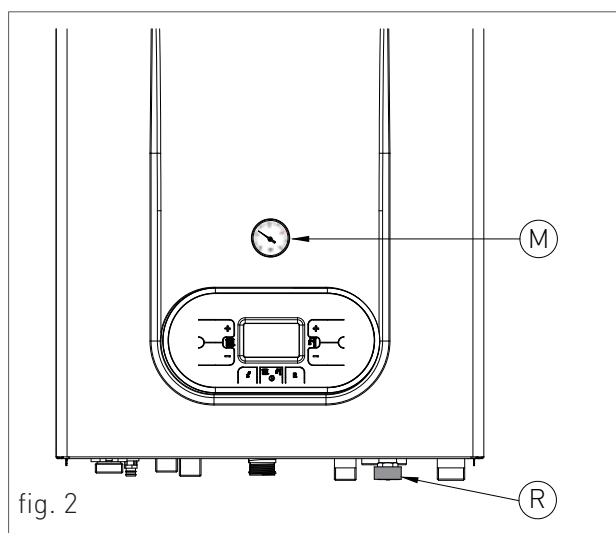
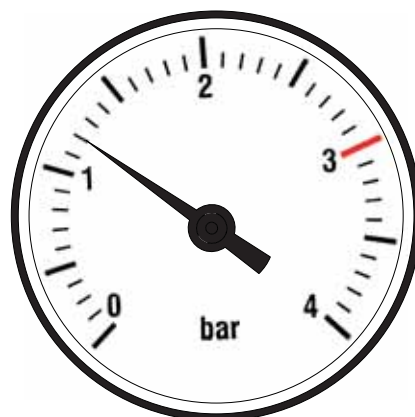

fig. 2
fig. 4
For machine positioning, proceed as follows (see fig. 2):
3. open the feeding tap "R" (fig. 2);
5. use pressure gauge "M" (fig. 2) to make sure that the system pressure reaches 1.2 bar (fig. 4);
6. after performing this operation, make sure that the loading tap "R" (fig. 2) is properly closed.
8. if after performing these operations you observe a decrease of the water pressure inside the system, open once again the loading tap "R" until the pressure gauge indicates the value of 1.2 bar (fig. 4)